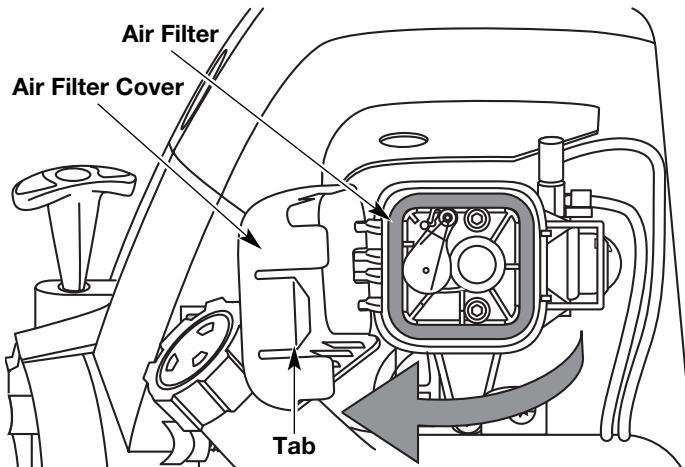

Fig. 27
1. Open the air filter cover. Push the tab on the right side of the cover inward. Then pull the air filter cover out and to the left (Fig. 27).
2. Remove the air filter (Fig. 27).